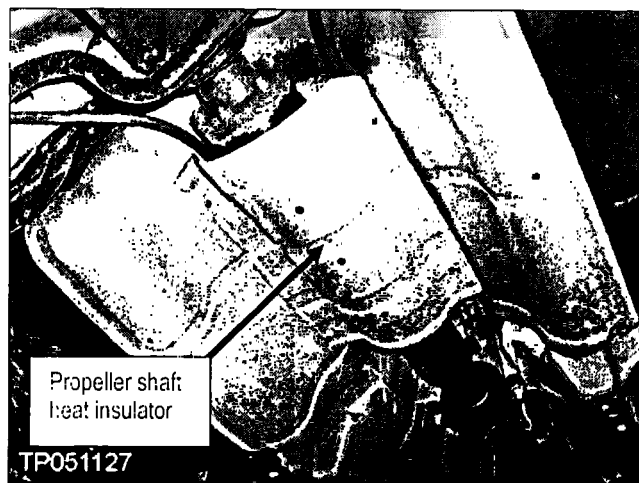

Figure 12
16. Remove four nuts and remove the propeller shaft heat insulator (see Figure 12).